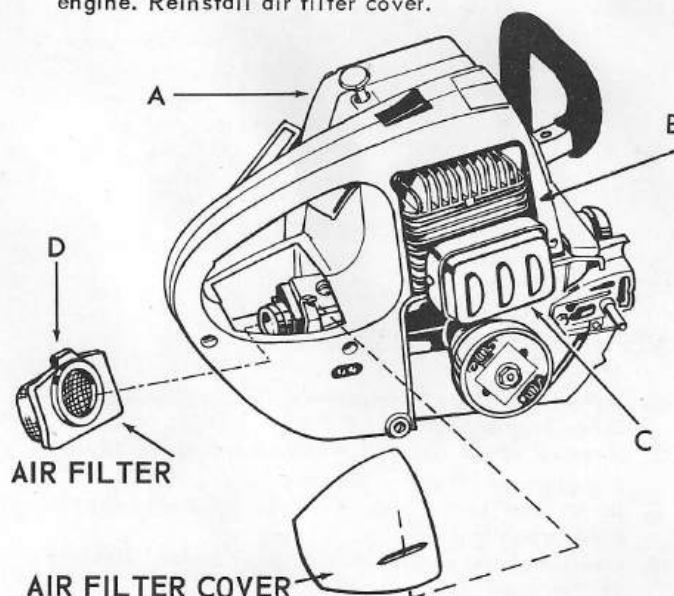

FIG. 23
Refer to Fig. 23. Check the flow of air over the cylinder. If restricted by debris, remove the starter cover (A) and clean the cylinder fins (B). It is advisable to remove the rewind starter housing (A), occasionally to remove saw dust from the fins of the engine. Compressed air can also be used to clean the engine fins if the saw dust has not accumulated too much. If saw dust blocks the air from flowing over the engine fins, the engine will overheat causing loss of power and possible damage to engine.